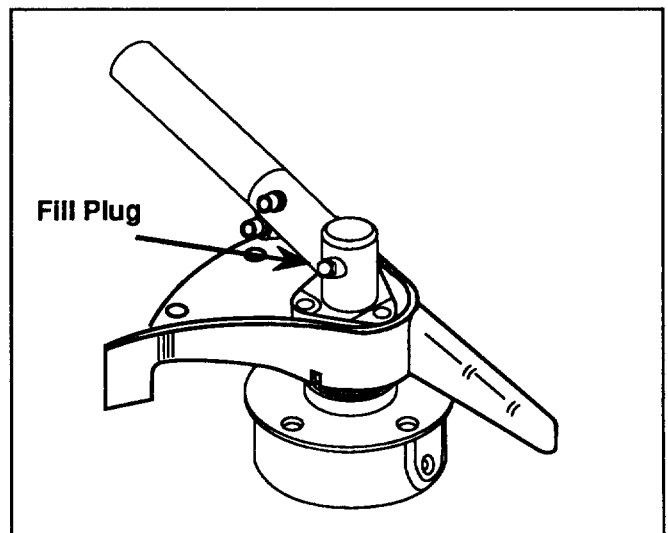

Fig. 19
2. To check the lubricant level, place the trimmer in the normal operating position and remove the fill plug (Fig. 19). The lubricant should be up to the bottom edge of the check hole. If it is low, add a good quality, lithium-based, #2, multi-purpose grease.